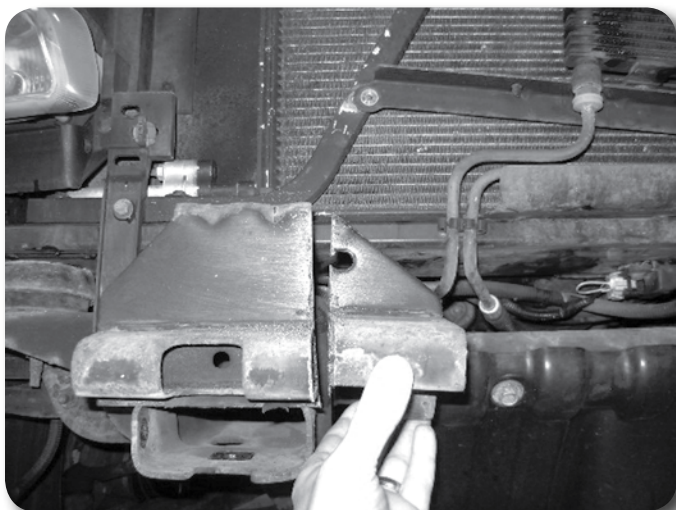

Figure 20B
44. Cut the inside of the frame brackets off along the cut line with a reciprocating saw. Figure 20B